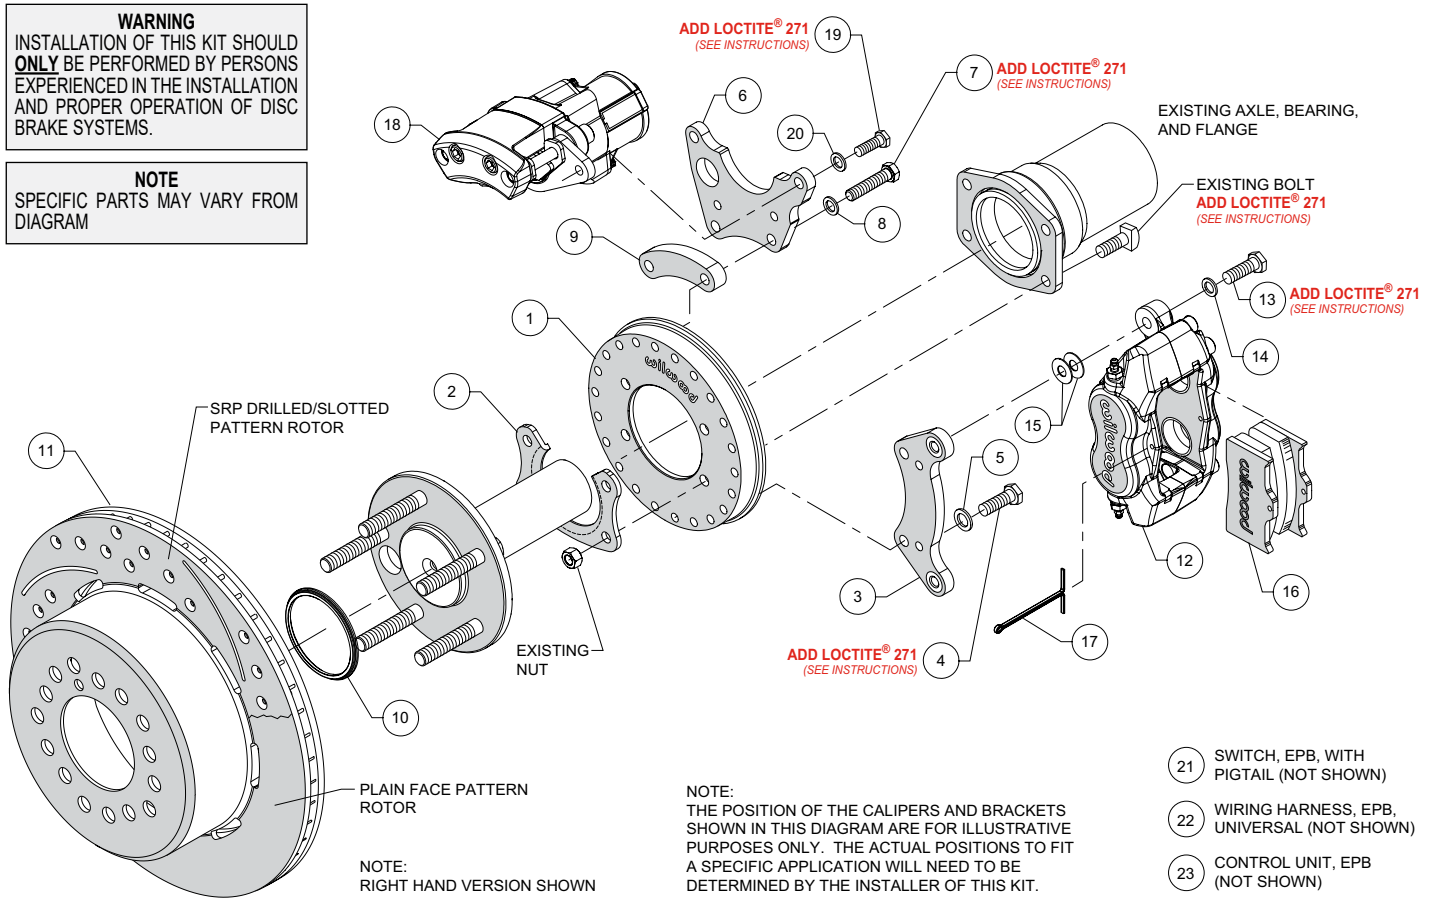
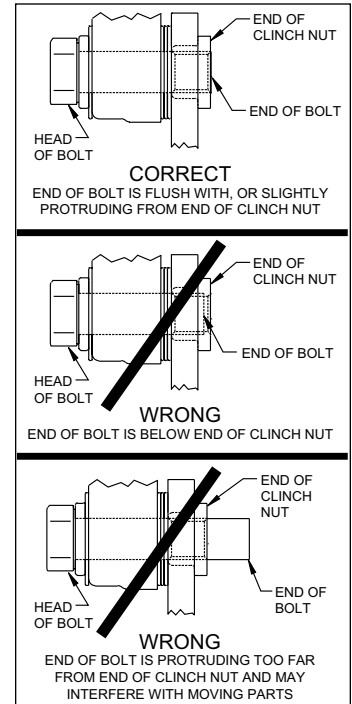

Figure 1. Typical Installation Configuration
Figure 5. Clinch Nut Engagement Diagram
NOTE: Numbers in parenthesis refer to the parts list and Figure 1 on the preceding pages.
CAUTION: All mounting bolts must fully engage clinch nuts. Be sure to check that all bolts are either flush or protruding through flanged side of clinch nut after shimming, Figure 5.
- Orient the backing plate (1) as shown in Figure 1 and Photo 1, and slide it onto the axle housing flange. Ensure the backing plate fits flush against the axle housing flange. Reinstall the axle into the axle housing.
- Install the bearing retainer (2) with the opening pointing upward and the lip facing inward (toward the bearing), as shown in Figures 1 and 4, and Photo 2. Secure retainer and backing plate to the axle housing flange using the Original Equipment Manufacturer (OEM) bolts and nuts, Figure 1 and Photo 3. Apply red *Loctite*® 271 to the OEM bolt threads and torque to OEM specifications.
- Start by determining the best location for the service caliper (12). This caliper is usually mounted in the 3:00 or 9:00 o'clock position, but may be rotated up or down approximately 45 degrees and still allow for proper bleeding, Photo 4. Orient the service caliper bracket (3) as shown in Figure 1 and Photo 5, and install to the backing plate (1) in the desired location using bolts (4) and washers (5). Temporarily tighten bolts. Next, mount the service caliper to the bracket using bolts (13) and washers (14). Temporarily tighten bolts. Check that the caliper (including inlet fitting and hose) has sufficient clearance to all surrounding components through the full suspension travel. Relocate the caliper/bracket on the backing plate as needed to ensure proper clearance is achieved.
- Determine the best location for the EPB caliper (18). **NOTE:** *The EPB caliper motor extends farther inboard than the service caliper and therefore needs additional consideration when determining a mounting location with sufficient clearance.* In the example application shown in Photo 6, the EPB caliper has sufficient inboard clearance to the leaf spring. However, if the EPB caliper were mounted closer to the 12:00 o'clock position, the inner body of the vehicle would hit the caliper during full compression of the suspension.
- Orient the EPB caliper bracket (6) as shown in Figure 1 and Photo 7, and install to the backing plate (1) in the desired location using bolts (7), washers (8), and spacer (9). Temporarily tighten bolts. **NOTE:** The EPB bracket is reversible. In one direction the bracket will position the EPB caliper closer to the service caliper, and vice versa if reversing the bracket. Next, mount the EPB caliper (18) to the bracket using bolts (19) and washers (20). Temporarily tighten bolts. **NOTE:** EPB calipers are Left and Right handed, however they can be used on either side of the vehicle to best suit your specific application. Check that the EPB caliper (including wiring harness connector) has sufficient clearance to all surrounding components through the full suspension travel. Relocate the EPB caliper/bracket on the backing plate as needed to ensure proper clearance is achieved.
- Once the caliper positions have been determined, remove both the service (12) and EPB (18) calipers, leaving both brackets in place on the backing plate. For both brackets, remove the bolts one at a time, apply red *Loctite*® 271 to the threads, and torque to 35 ft-lb.
- Slide the rotor registration adapter (10) onto the register on the axle flange with the smaller O.D. facing toward the rotor/hat (11), Photo 8. Align the correct hole pattern in the rotor/hat with the stud pattern on the axle flange and slide into place, Figure 1. **NOTE:** The rotor/hat must fit flush against the axle flange or excessive rotor run out may result. Install three lug nuts (finger tight) to keep the rotor/hat assembly in place while continuing with the installation. **NOTE:** Some OEM and after market axles come with stud sizes larger than 0.50" diameter. Verify stud size and have a qualified machine shop drill the bolt circle of the hat/rotor to the correct stud size, if necessary.
- NOTE:** Please reference the caution statement at the beginning of the assembly instructions. Remount the service caliper (12) onto the caliper mounting bracket (3) using bolts (13) and washers (14), as shown in Figure 1. Initially place two .035" thick shims (15) on each bolt between the caliper and the bracket, Photo 9. Temporarily tighten the mounting bolts and view the rotor (11) through the top opening of the caliper. The rotor should be centered in the caliper, Photo 10. If not, adjust by adding or subtracting shims (15) between the bracket (3) and the caliper (12). Always use the same amount of shims on each of the two mounting bolts. **NOTE:** The end of each bolt must be flush with or slightly protruding from the head of the clinch nut, as shown in Figure 5. If necessary place spare shims (15) between washer (14) and caliper mounting ear to achieve the proper clinch nut engagement. Once the caliper alignment and clinch nut engagement are correct, remove the bolts one at a time, apply red *Loctite*® 271 to bolt threads, and torque to 40 ft-lb.
- Mount the EPB caliper (18) onto the caliper mounting bracket (6) using bolts (19) and washers (20), Figure 1. Apply red *Loctite*® 271 to bolt threads, and torque to 30 ft-lb.
- NOTE:** *The service caliper (12) in this brake kit utilizes a 1/8-27 NPT pipe thread inlet. OEM rubber brake hoses generally cannot be adapted to Wilwood calipers. The preferred method is to use steel adapter fittings at the caliper, either straight, 45 or 90 degree (use PTFE tape on pipe threads of adapter fitting for proper sealing to caliper) and enough steel braided line to allow for full suspension travel. Carefully route hoses to prevent contact with moving suspension, brake or wheel components. NOTE: Wilwood hose kits are designed for use in many different vehicle applications and it is the installer's responsibility to properly route and ensure adequate clearance and retention for brake hose components. Wilwood offers universal brake flex line hose kits, domestic (3/8-24 IF) chassis fittings, order: